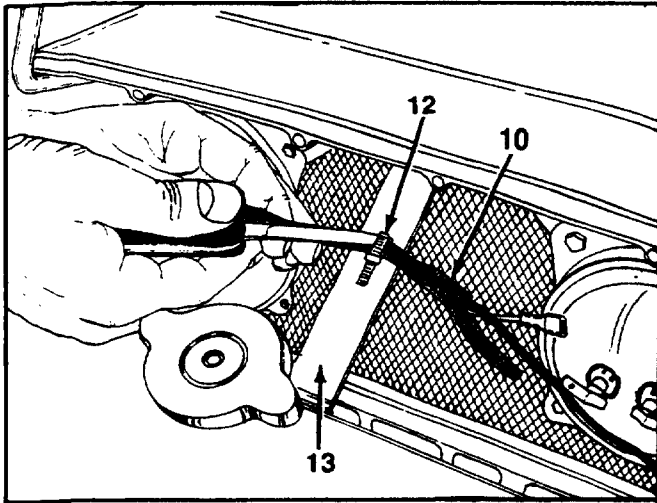

FIGURE 7.
- 8. Cut the cable tie holding the headlight wire harness at grille support strap. See figure 7.
- 9. Remove the grille support strap at radiator. See figure 7.